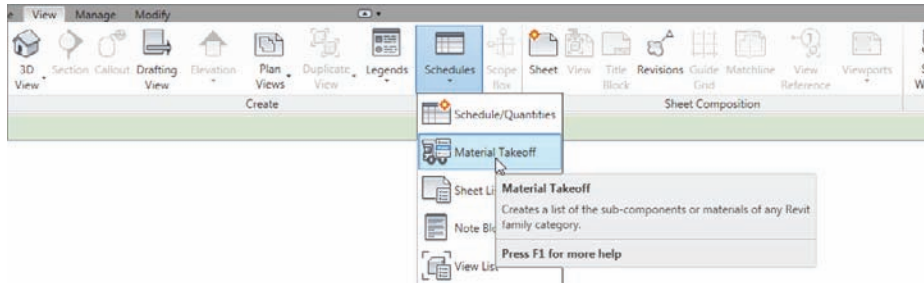

FIGURE 11.25 To add a new material takeoff, you can go to the View tab.
1. On the View tab, click Schedules > Material Takeoff, as shown in Figure 11.25.